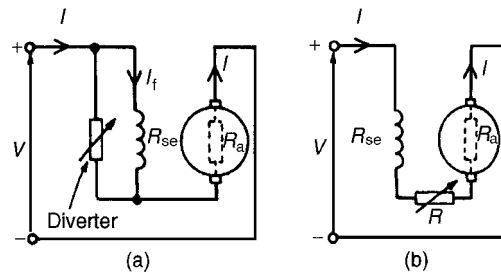

Figure 22.30
where k is a constant, V is the terminal voltage, R is the combined resistance of the armature and series field and Φ is the flux. Thus, a reduction in flux results in an increase in speed. This is achieved by putting a variable resistance in parallel with the field winding and reducing the field current, and hence flux, for a given value of supply current. A circuit diagram of this arrangement is shown in Fig. 22.30(a). A variable resistor connected in parallel with the series-wound field to control speed is called a **diverter**. Speeds above those given with no diverter are obtained by this method. Problem 29 below demonstrates this method.
- (b) Speeds below normal are obtained by connecting a variable resistor in series with the field winding and armature circuit, as shown in Fig. 22.30(b). This effectively increases the value of R in the equation
With the 0.2Ω diverter in parallel with R_{se} (see Fig. 22.30(a)), the equivalent resistance,
$$I_1 \text{ (in Fig. 22.30(a))} = \left(\frac{0.2}{0.2 + 0.05} \right) I = 0.8I$$
With reference to Fig. 22.30(b), at 800 rev/min,